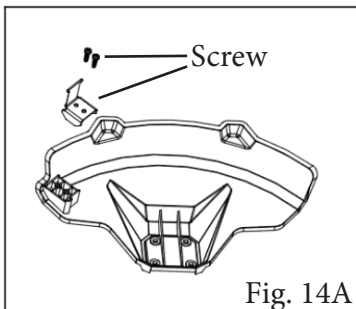
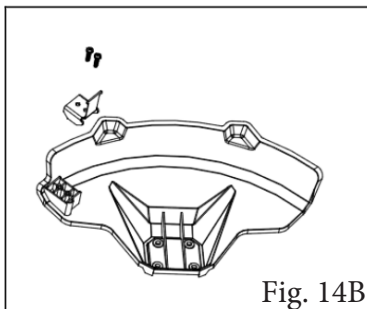

Fig. 14A
Fig. 14B
- Remove both screws on the cut-off blade with a hex wrench. (Fig.14A)
- Rotate the cut-off blade 180°. (Fig.14A/Fig.14B)
- Re-assemble both screws in the blade. (Fig.14B)